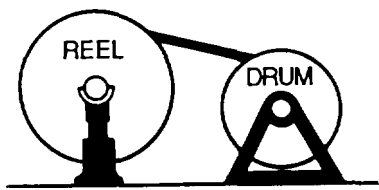

Figure 2-5. *Spooling Cable on Winch Drum*
6. Mount the cable shipping reel with the bar horizontal on jacks or a suitable supporting structure (Figure 2-5).